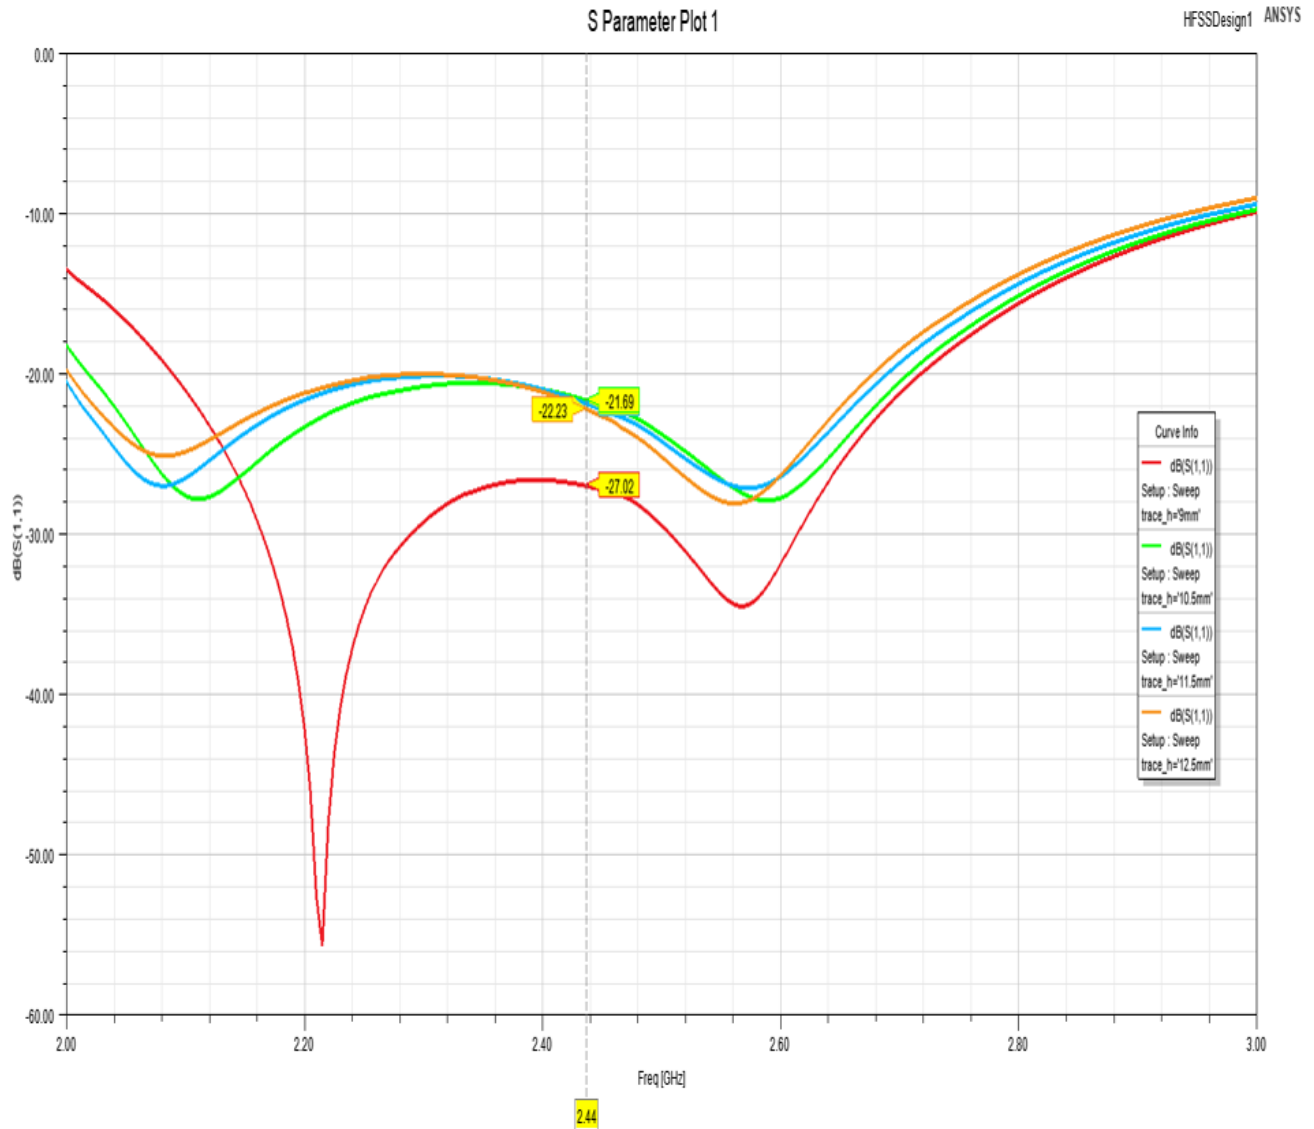

Figure 15. trace_h Parameter Plot
- trace_h Parameter Plot (Figure 15)